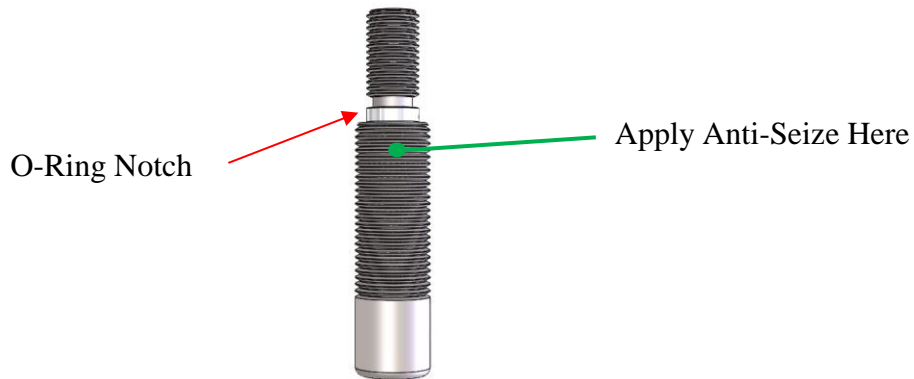

Figure 26: Adjustment Screw O-Ring Notch
13. Carefully place the adjustment screw o-ring onto the adjustment screw making sure not to cut the o-ring. The o-ring should reside in a notch groove below the upper threads of the adjustment screw. See Figure 26.
14. Lightly lubricate the adjustment screw threads with anti-seize. See Figure 26.